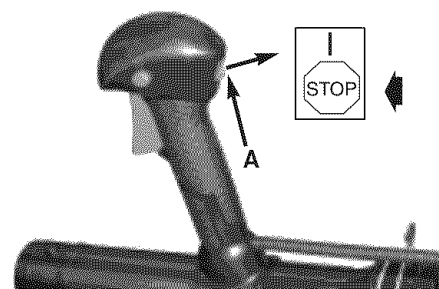

Fig. 16
Emergency Stopping Procedure. When it is necessary to stop blower engine immediately, DEPRESS the OFF "STOP" switch (A) until the engine stops completely (Figure 16).
Normal Stopping Method. For normal stopping, release trigger and allow engine to return to idle speed. Then DEPRESS the OFF "STOP" switch (A) until the engine stops completely. (Figure 16)
4. The control handle (A, Fig. 16) and the flexibility of the blower tube assembly will allow you to clear the most hard-to-reach areas .